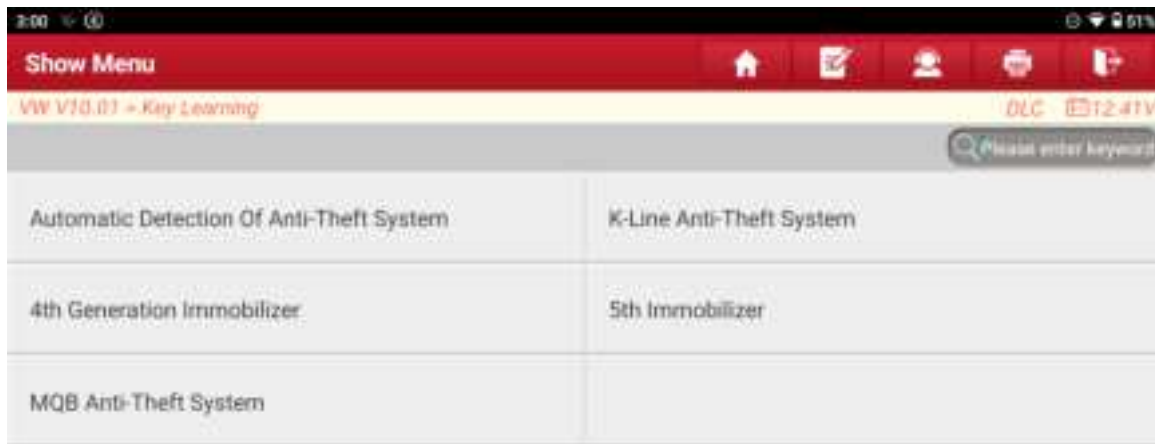

Figure 4
4. Choose [MQB Anti-theft System], as shown in Figure 4.